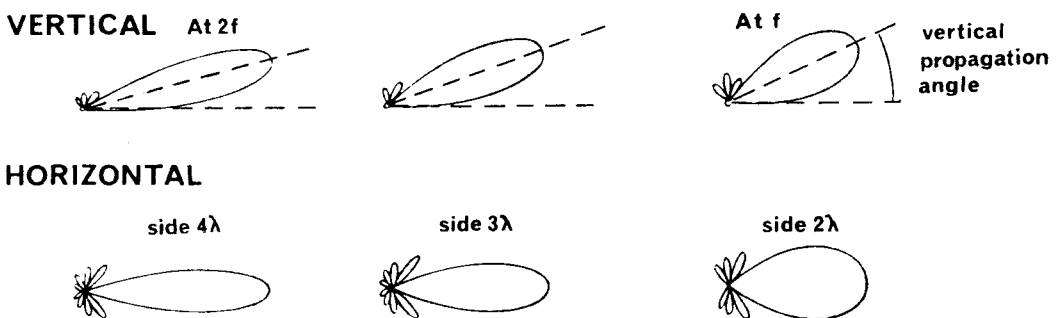

Fig 17.3 Polar Diagrams over Frequency Range of 2:1
frequency range of 2:1 are given in Fig 17.3. From this it can be seen that changes in operating frequency from $2f$ to f cause the effective length of the side of the rhombic to change from 4λ to 2λ , and this affects both gain and directivity. Such variations can be reduced to acceptable limits by good design.
- The interdependence of the rhombic's vertical and horizontal radiation patterns can be considered a disadvantage, as with the higher vertical propagation angles the horizontal pattern broadens and gain reduces (Fig 17.3). This assumes less importance when it is considered that the rhombic is used essentially for long distance transmissions at low vertical propagation angles.
As mentioned in the preceding paragraphs an effective rhombic antenna must have a minimum side length of at least two wavelengths and, for the hf band, the dimensions involved dictate that for practical reasons the antenna must be mounted horizontally. Although erected in the horizontal plane, the maximum radiation pattern in the vertical plane is inclined at some angle above the horizontal — termed the vertical propagation angle or *wave angle* (Fig 17.3). The value of this vertical propagation angle, the determination of which is essential for ionospheric working, depends on the height of the antenna above the ground, the side length L and the tilt angle \emptyset . These three factors all have a best (optimum) value, any deviation from which will have some detrimental effect on the maximum power radiated at the desired vertical propagation angle.